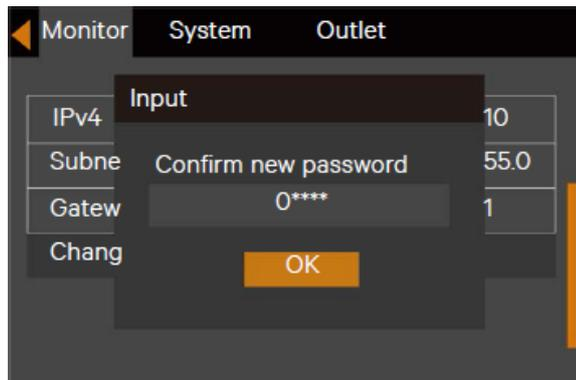

Figure 5-19 Confirming new password
1. Press the  key to move the cursor to the 'Monitor', see Figure 5-19.